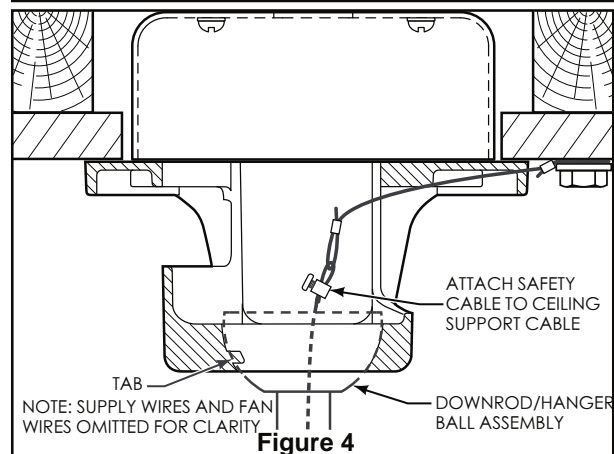

Figure 4
4. Position downrod support and align the clevis pin holes in both parts. Install the clevis pin and secure with the hairpin clip. Tighten the two set screws and locking nuts in the downrod support (Figure 4).
4. Carefully lift the fan and seat the downrod/hanger ball assembly on the hanger bracket that was just attached to the ceiling joist. Be sure the groove in the ball is lined up with tab on the hanger bracket. (Figure 4)
5. Attach the safety cable to ceiling support cable. Slide cable clamp onto safety cable (from fan). Place the end of cable through the loop of ceiling support cable. Pull as much cable through loop as possible. Feed end of cable into clamp hole and firmly tighten screw (Figure 4). Cut off excess safety cable.
3. After connections have been made, turn leads upward and carefully push leads into the outlet box, with the white and green leads to one side of the box and the black leads to the other side. (Figure 4)
3. Connect the 2 single pin connector from motor assembly to the 2 single pin connector from the adapter switch cup assembly. (Figure 4)
4. Tighten the screw into the cover switch cup. (Figure 4)
- 4.** To set the remote code with a small screwdriver or ball point pen (neither included), slide dip switches firmly up or down. (Figure 4)